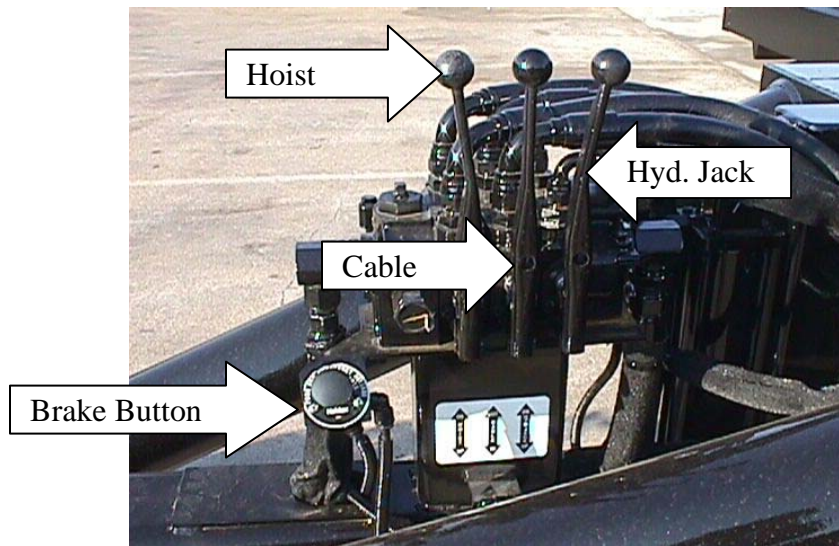

Figure 1
The first three controls of the Main Control Valve (Ref. Figure 1) are used for operating the hoist, cable and hydraulic jack leg. Any other controls are auxiliary and will operate the options such as a Tarper system and Stinger.
The trailer park brake release button is located on the trailer to the left of the Main Control Valve (Ref. Figures 1 & 2). To operate, the truck must be in neutral and the truck brakes not set. To move the trailer and truck forward from outside the cab press and hold the release button. The trailer's parking brakes will release and the weight of the truck will pull the trailer forward. Release the park brake button to stop the trailer and truck from moving forward.
- If necessary, press the trailer park release button (Ref. Figures 1 & 2) to move the truck and trailer forward.